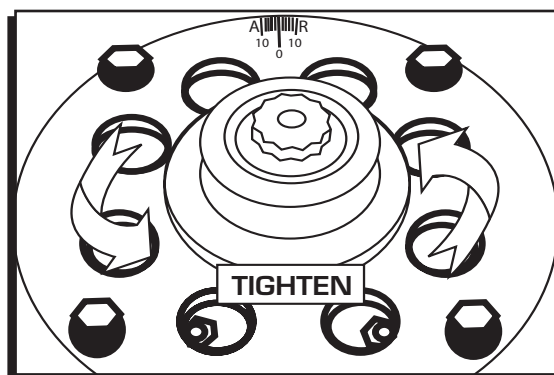

Figure 4 Installing the Timing Belt Pulley.
2. Install the camshaft pulley, cam adapter, washer and 12-point bolt (Figure 4).